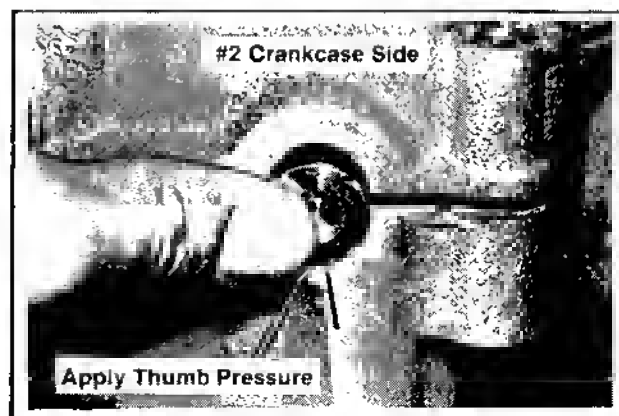

Figure 11-20. Installing #2 Crankcase Side.
4. Place the #2 crankcase side on the #1 side. Apply thumb pressure on the plug as the sides are brought together. Maintain pressure on the plug as the crankcase fasteners are installed and tightened. This ensures the plug shoulder is bottomed tightly against the crankcase. Refer to Figure 11-20.